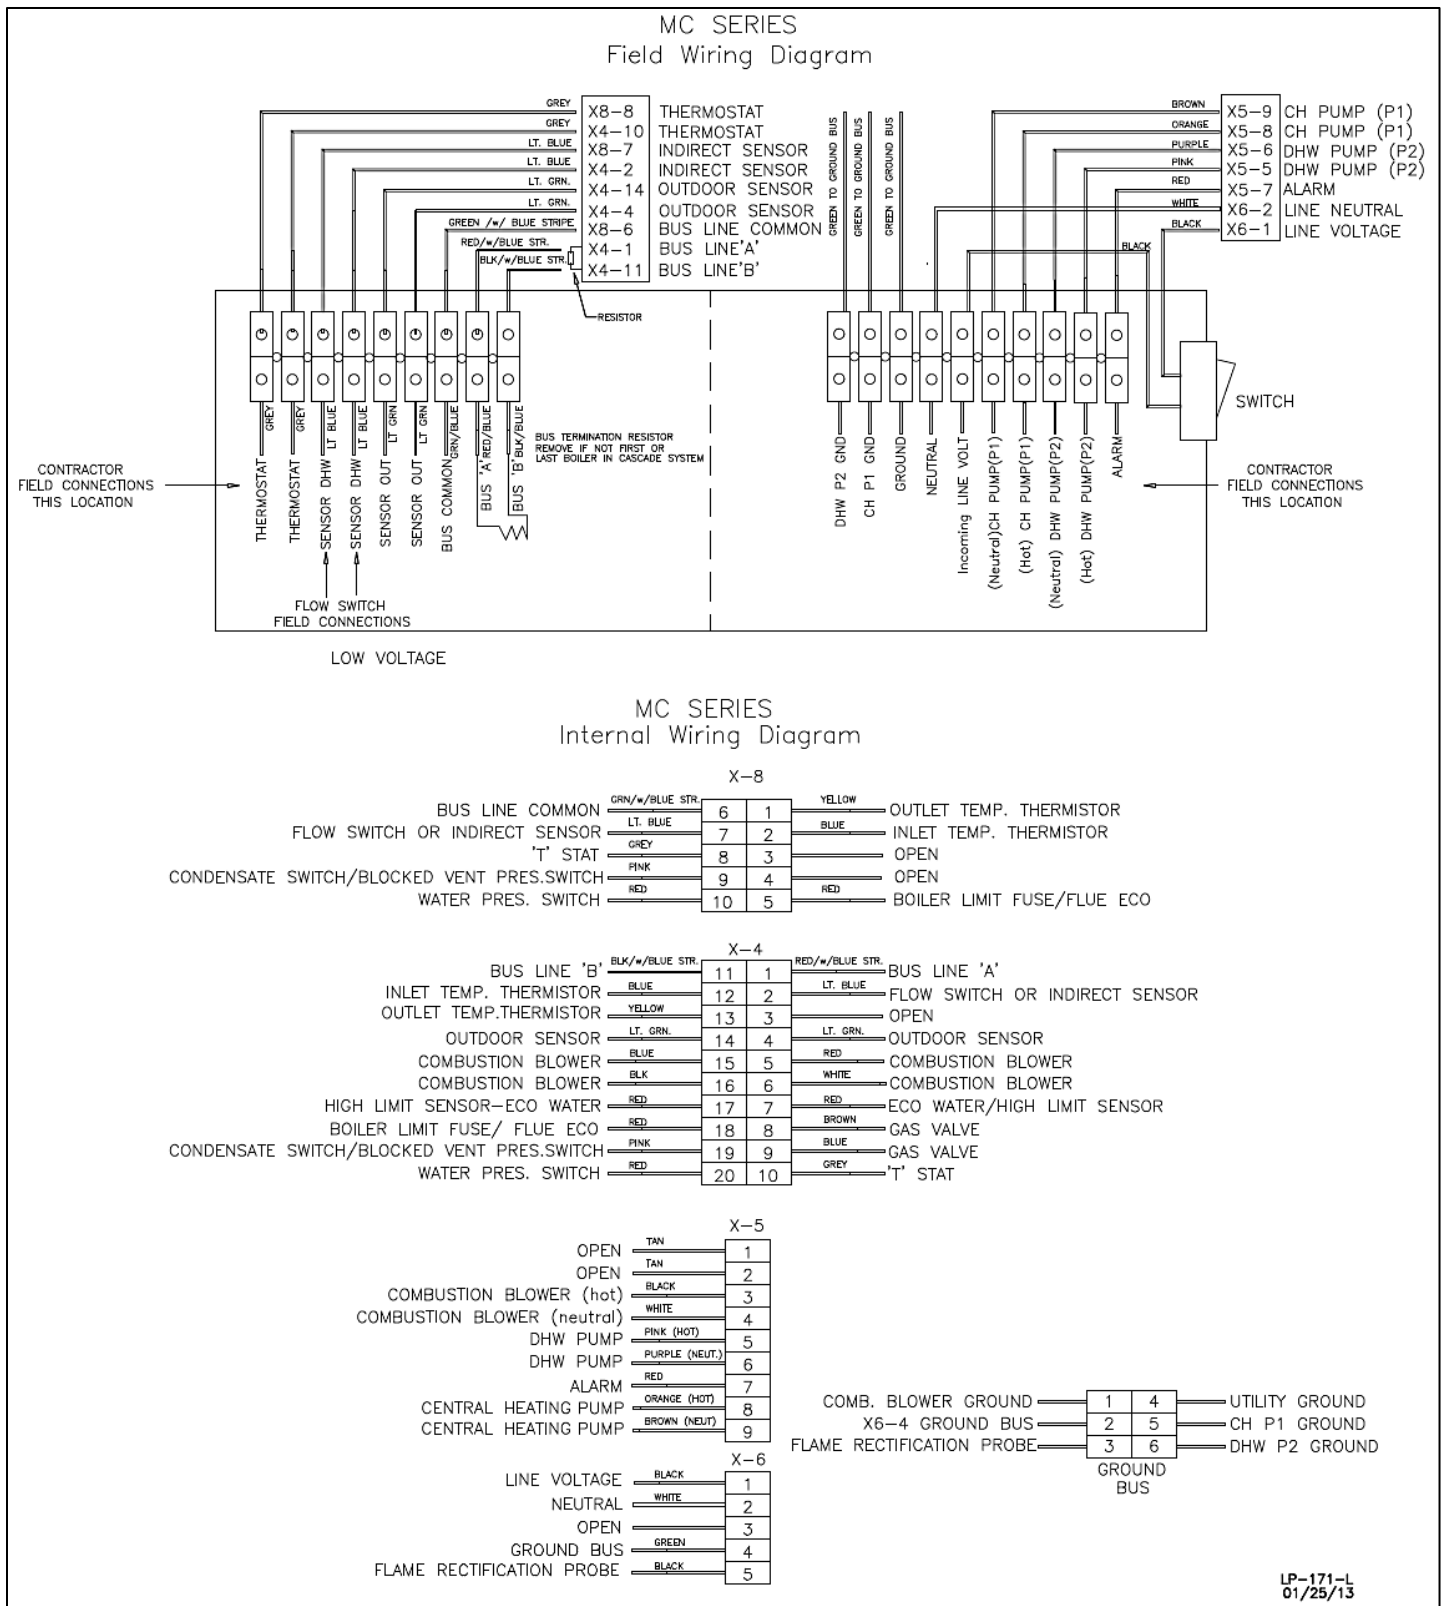

Figure 32 – NOTE: A resistor is provided between Bus Lines A and B. DO NOT REMOVE THIS RESISTOR! DOING SO WILL EFFECT HEATER OPERATION AND VOID WARRANTY!
1. Connect 120 VAC power wiring to the line voltage terminal strip located inside the electric junction box, as shown in Figure 32.